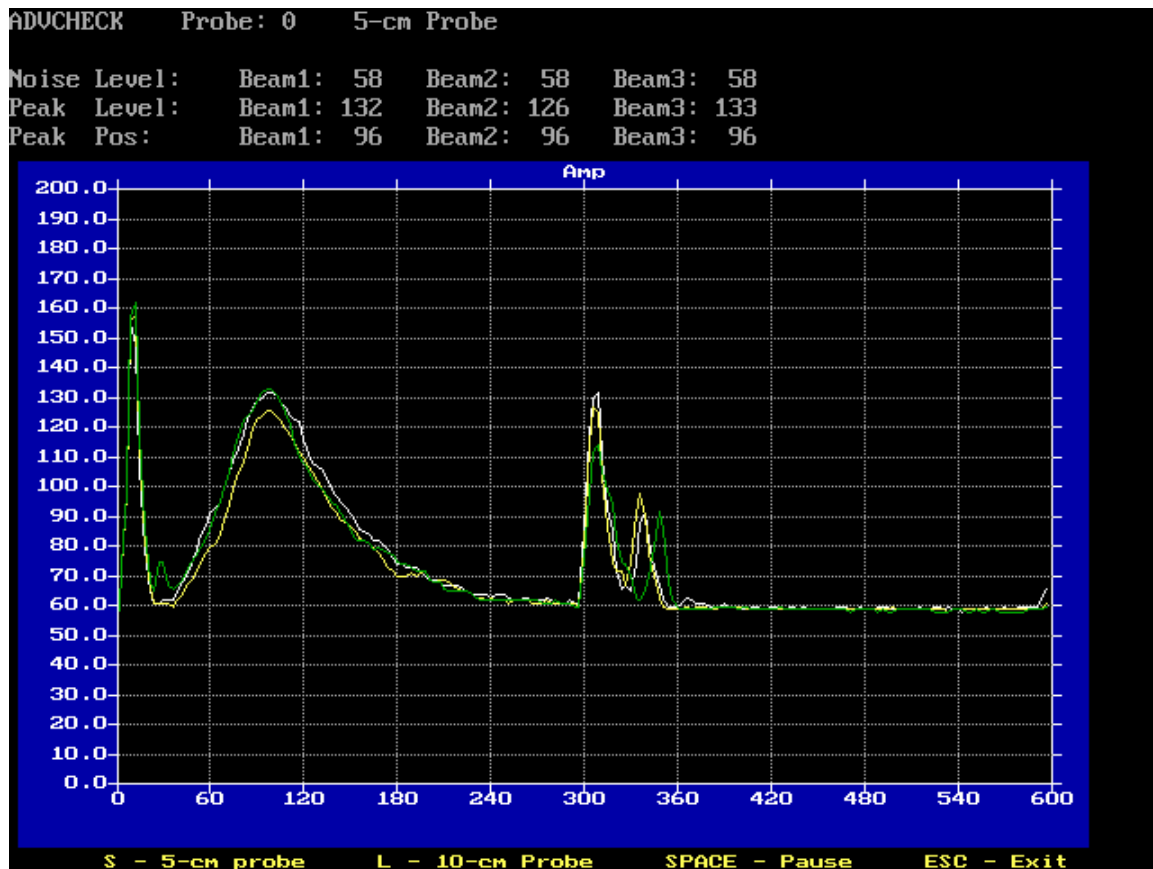

Figure 5 – ADFCHECK Display
The ADV sends a pulse of sound, and **ADFCHECK** plots the return signal strength for each of the three receivers as a function of time following the transmit pulse. The output plot shows several features: increased signal strength in a bell-shaped curve corresponding to the sampling volume, a sharp spike from the boundary reflection if within range, and signal leveling to the electronic noise level. The display is updated every 1-2 seconds and each plot is the average of a number of samples. Figure 5 shows an example of this output using data from a 10-MHz ADV with a 5-cm distance to the sampling volume.
Several important features can be identified in Figure 5. Each of these is described below, starting at the left side of the plot.
- When there is sufficient scattering material in the water, there will be an increase in signal strength in a bell shaped curve that corresponds to the transmit pulse passing through the focal point of the receivers. The peak of this curve corresponds to the center of the sampling volume. The exact location of the center of the sampling volume depends on the exact probe geometry. For the 10-MHz ADV, the peak is typically located at 90-105 counts for 5-cm probes, and at 175-195 counts for 10-cm probes. For 5-MHz ADVOcean probes, the peak is typically located at 140-160 counts. All three receivers should see the peak in the same location, although there will be variation in the height and shape of the curve. It is possible to calculate the signal to noise ratio (SNR) from the height of this curve and the noise level (see below). For the example in Figure 5, the mean height of the curve is about 130 counts and the noise level is about 58 counts. SNR is then calculated by $(130-58)*0.43$, or about 31 dB.
- If the ADV is reasonably close to a boundary (bottom, surface, or side), a sharp reflection should be seen in ADFCHECK. The size and shape of this reflection will vary depending on the nature of the boundary, its distance from the ADV, and the acoustic conditions of the water. We can estimate the distance from the probe to the boundary by the location of the front edge of the boundary reflection. In Figure 5, this occurs at about 300 counts or 18 cm from the